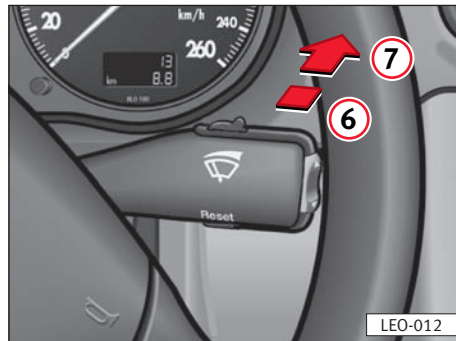

Fig. 85
Push the lever forward to position ⑦ ⇒ fig. 85.